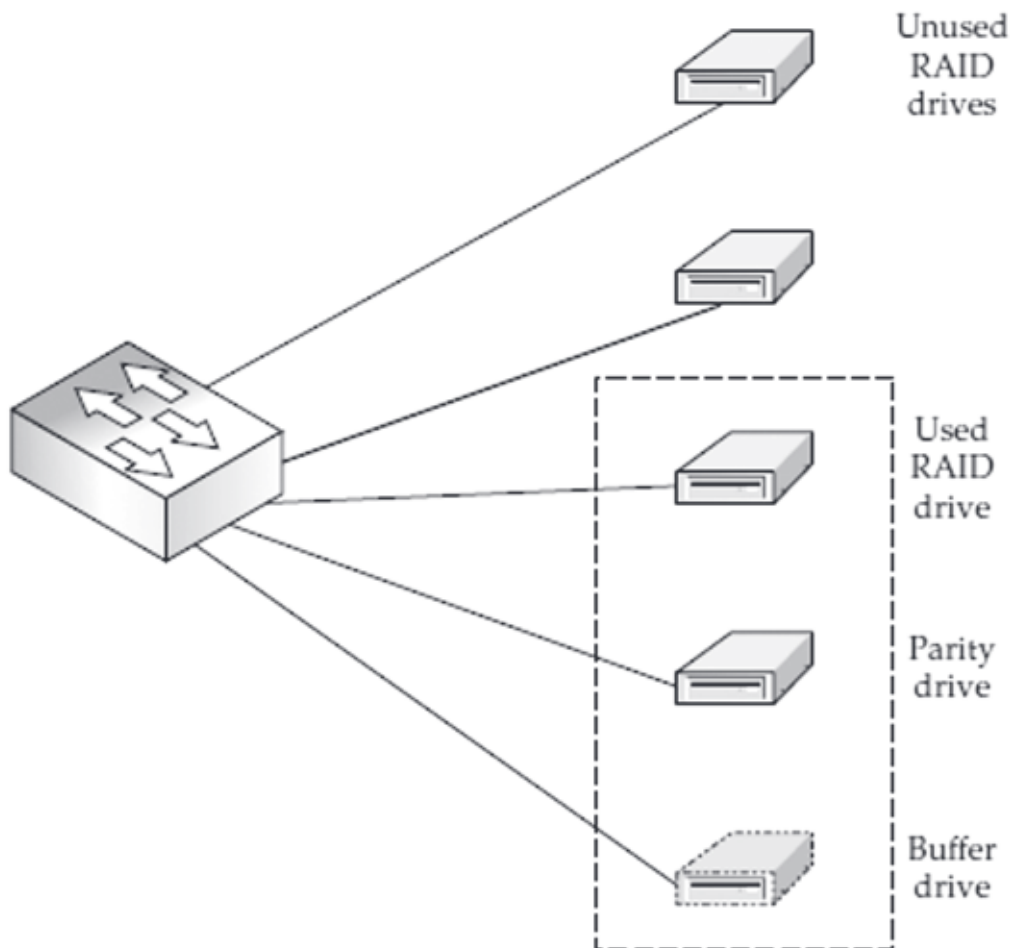

Fig. 5 Power-managed RAID only uses the drive where data is being stored and the parity drive.
- Power-managed RAID provides parity protection, but with just some of the RAID disks actually turned on. When data is written, only the parity and associated data drives are powered up. When data is read, only the disk being read must be powered up. this is often illustrated in Figure 5.